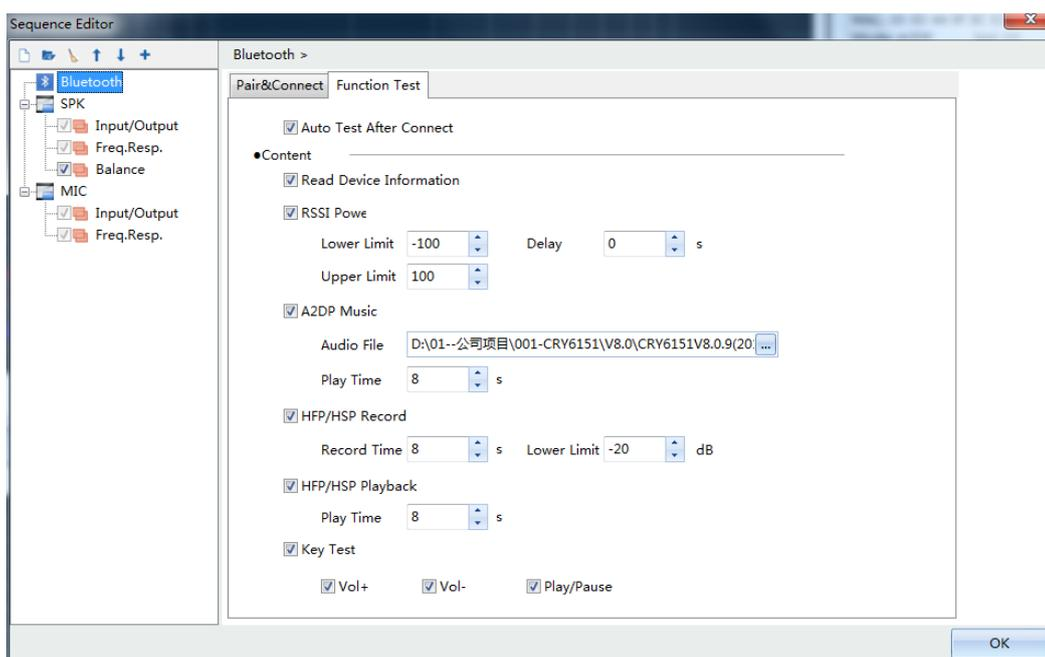
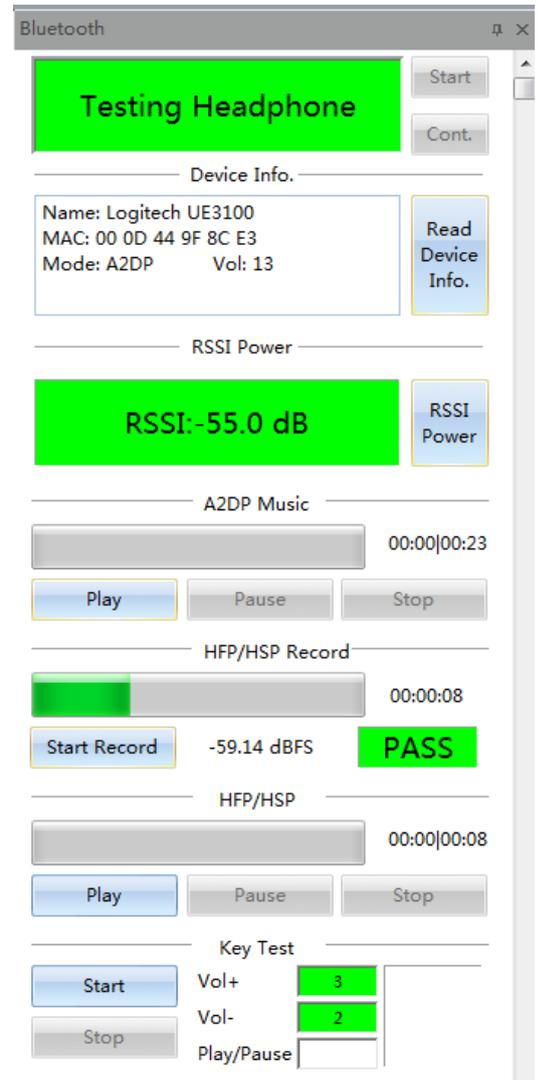

Figure 5.57 Bluetooth Functional Test Setup
Figure 5.58 Bluetooth Connection Test
- ✓ **Auto Test After Connect:** If this item is selected, after bluetooth headphone is successfully connected, it will finish the selected test content in Figure 5.57. The actual Bluetooth and test content interface are shown in Figure 5.58.